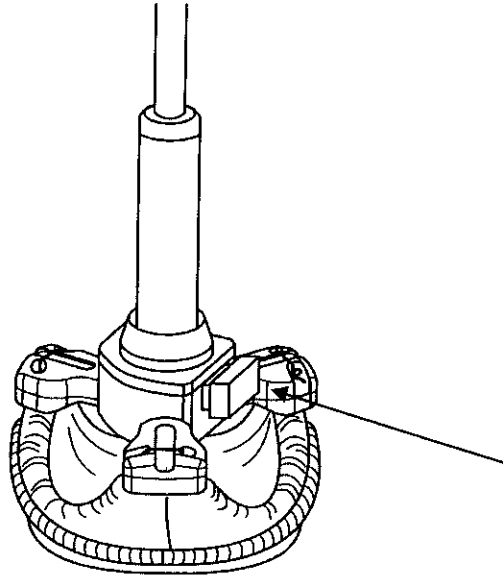

Figure 8: Release the valve holder handle by depressing the button.
2. To facilitate implantation, the valve holder handle may be removed from the valve holder by depressing the release button on the valve holder (Figure 8).